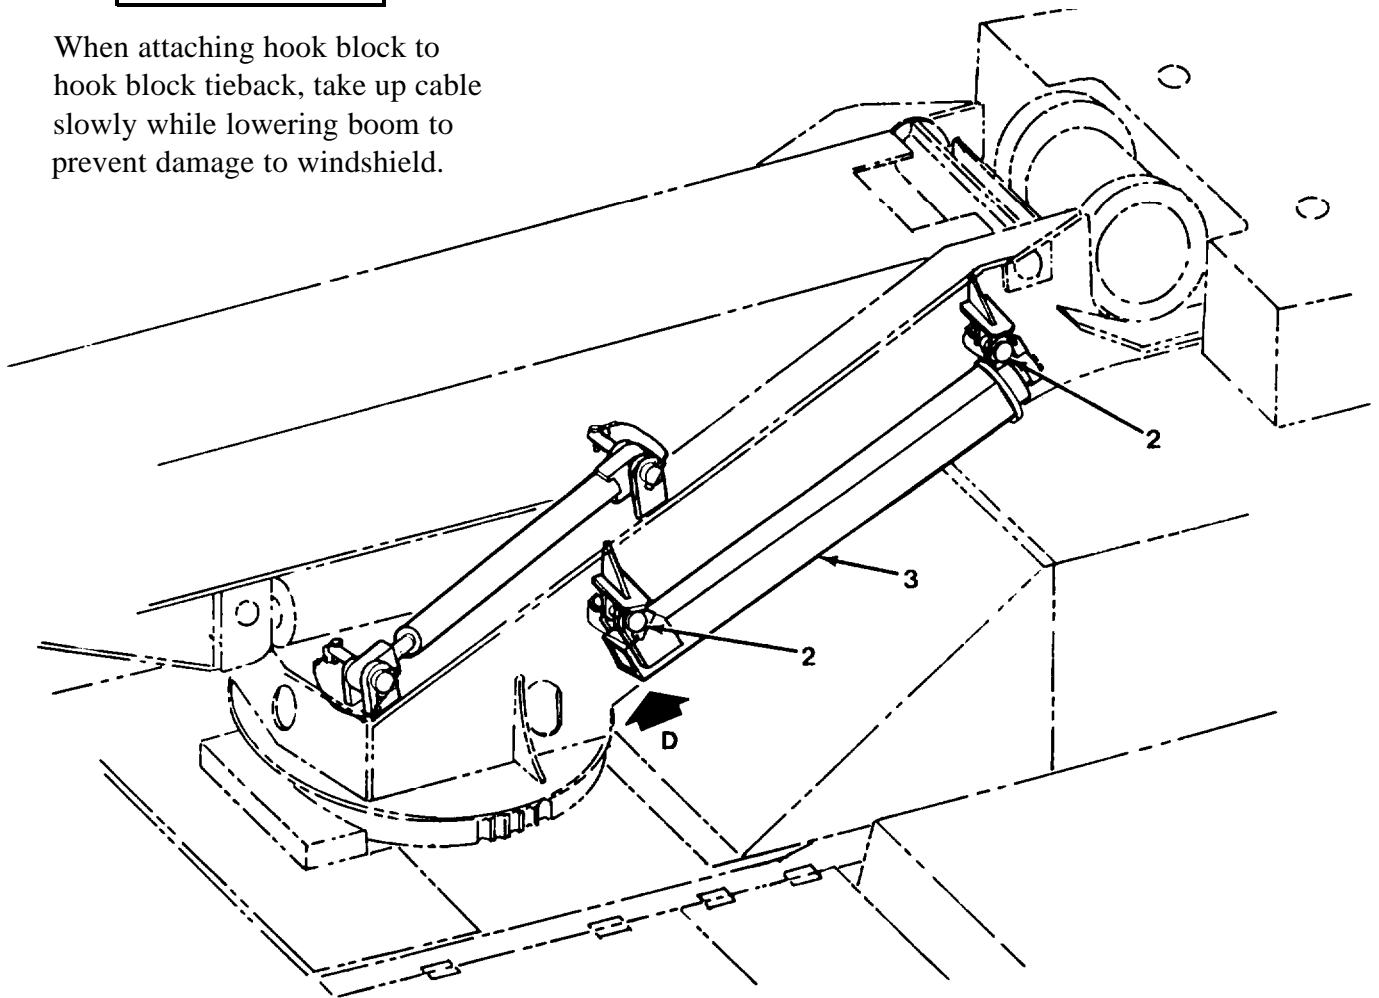

Figure 5-4. *Storage Location D*
- g. Swing boom to 2 o'clock position and stow mast (3) on upperstructure storage location D (Figure 5-4) using additional pin from tool box.